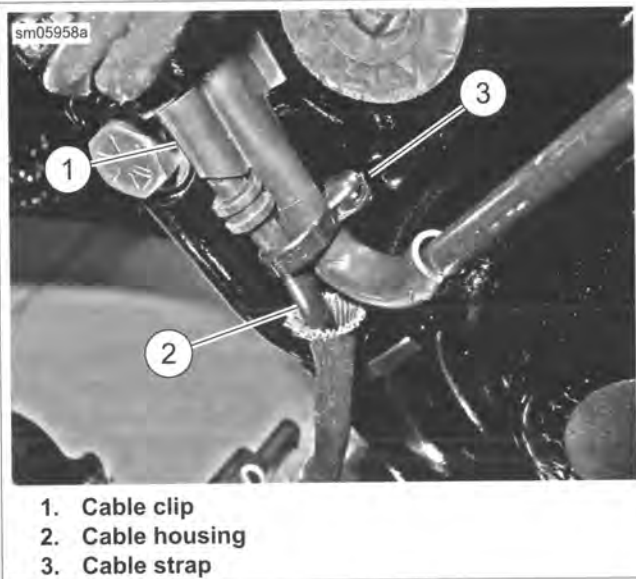

Figure 4-44. Cable Routing
3. See Figure 4-44. Cut cable strap (3). Release cable housing (2) from cable clip (1).
3. See Figure 4-44. Secure cable housing (2) in cable clip (1). Secure cable housing to brake line with cable strap (3).